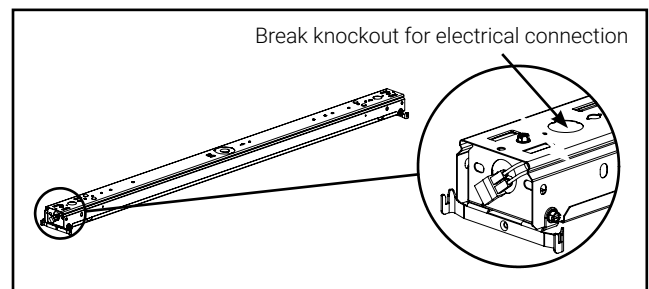

Figure 1
1. Remove channel assembly from box, remove tape around channel cover and install on surface or suspended ceiling according to code (hardware provided by others). (Figure 1)